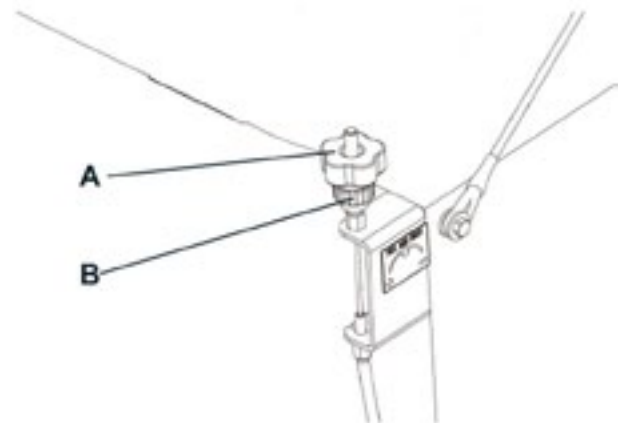

Figure2
- 2) Turn the ignition key (71) to "0".
- 4) Loosen the knob (A, Fig. 2) on the left side of the machine.
- 5) Turn the knob (B, Fig. 2) and remind that: